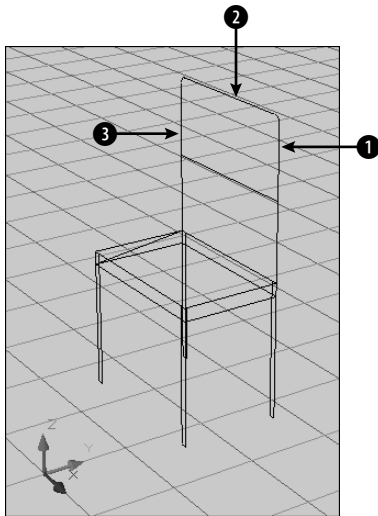

Figure 21-11: A wireframe model of a chair.
8. At the Select first object or [Undo/Polyline/Radius/Trim/Multiple]: prompt, pick ❶ in Figure 21-11. At the Select second object: prompt, pick ❷.
9. Repeat the FILLET command and pick ❷ and ❸ for the two lines.
10. Save the drawing of the chair. It should look like Figure 21-11.
Wireframes have a number of limitations. In Figure 21-11, the chair that you drew in the previous exercise, you can see the back leg through the seat of the chair. Also, creating the detail of a real chair would be tedious if you were to use individual lines or 3D polylines. Finally, wireframes don't have any surface or solid properties. You can't display them in any realistic fashion or calculate properties, such as area, mass, and so on.